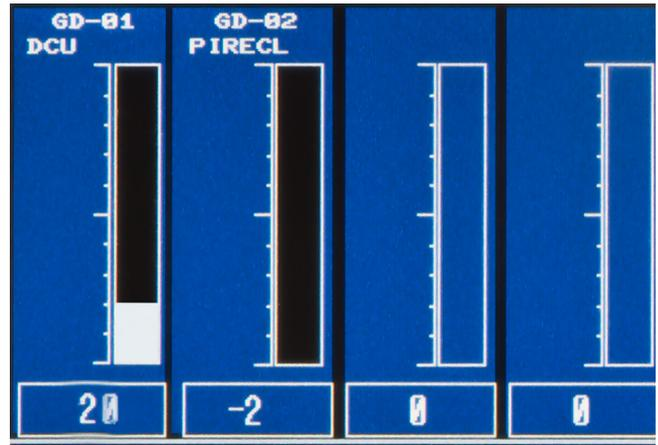

Figure 12—Real Time Gas Value and Applied Gas on Main Screen
3. On the Main screen, the real time gas value will rise above zero and the applied calibration gas is indicated when the channel contains a solid white bar (Figure 12).